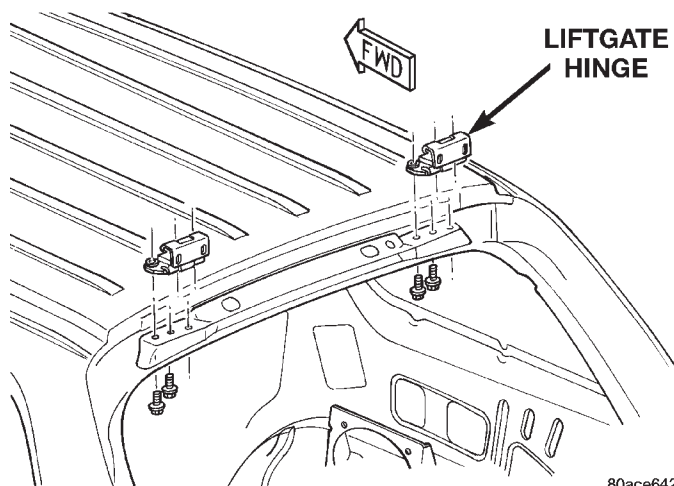

Fig. 69 Liftgate Hinge
- (1) Remove liftgate upper trim.
- (2) Remove D-pillar trim.
- (3) Support liftgate on a suitable lifting device.
- (4) Using a wax crayon or equivalent, mark the position of the hinge on the liftgate and roof panel.
- (5) Carefully pull headliner down and remove bolts attaching liftgate hinge to roof panel (Fig. 69).
- (6) Remove bolts attaching hinge to liftgate.
- (7) Remove hinge from vehicle.